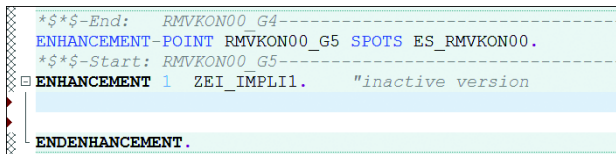

Figure 20.55 Enhancement Section
4. This will create an `ENHANCEMENT ENDENHANCEMENT` section in the code in which you can add your custom code, as shown in Figure 20.55.